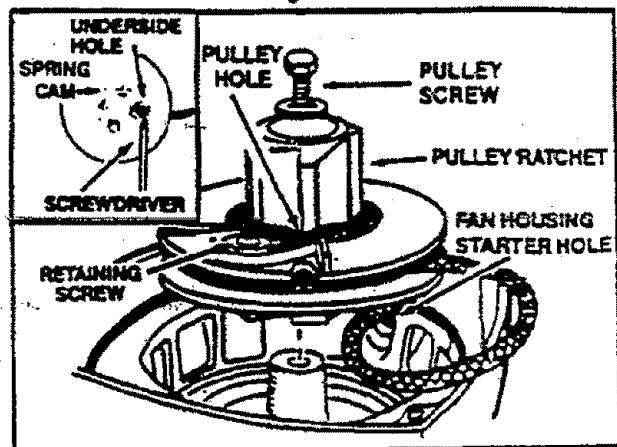

Figure 41
6. Remove screw and pulley very carefully. Figure 41. The recoil spring which lies beneath the pulley must stay in the housing, flat against the bottom. If the spring is disturbed, it will require considerable time and effort to reinstall. Twist the pulley gently counterclockwise as you pull up to release the spring.
7. Loosen retaining screw and remove old rope. Figure 41.
12. Guide rope inside pulley, then up through the pulley hole to the outside by pushing the rope through from the hole on the spring cam side with a small Phillips screwdriver. Figure 41 (inset).
13. Wrap rope counterclockwise around pulley ratchet and tuck loose end back under rope leaving a 1 inch tail between the retainer rib and screw post. Tighten retaining screw. Figure 41.
16. Replace and tighten pulley screw. Figure 41.